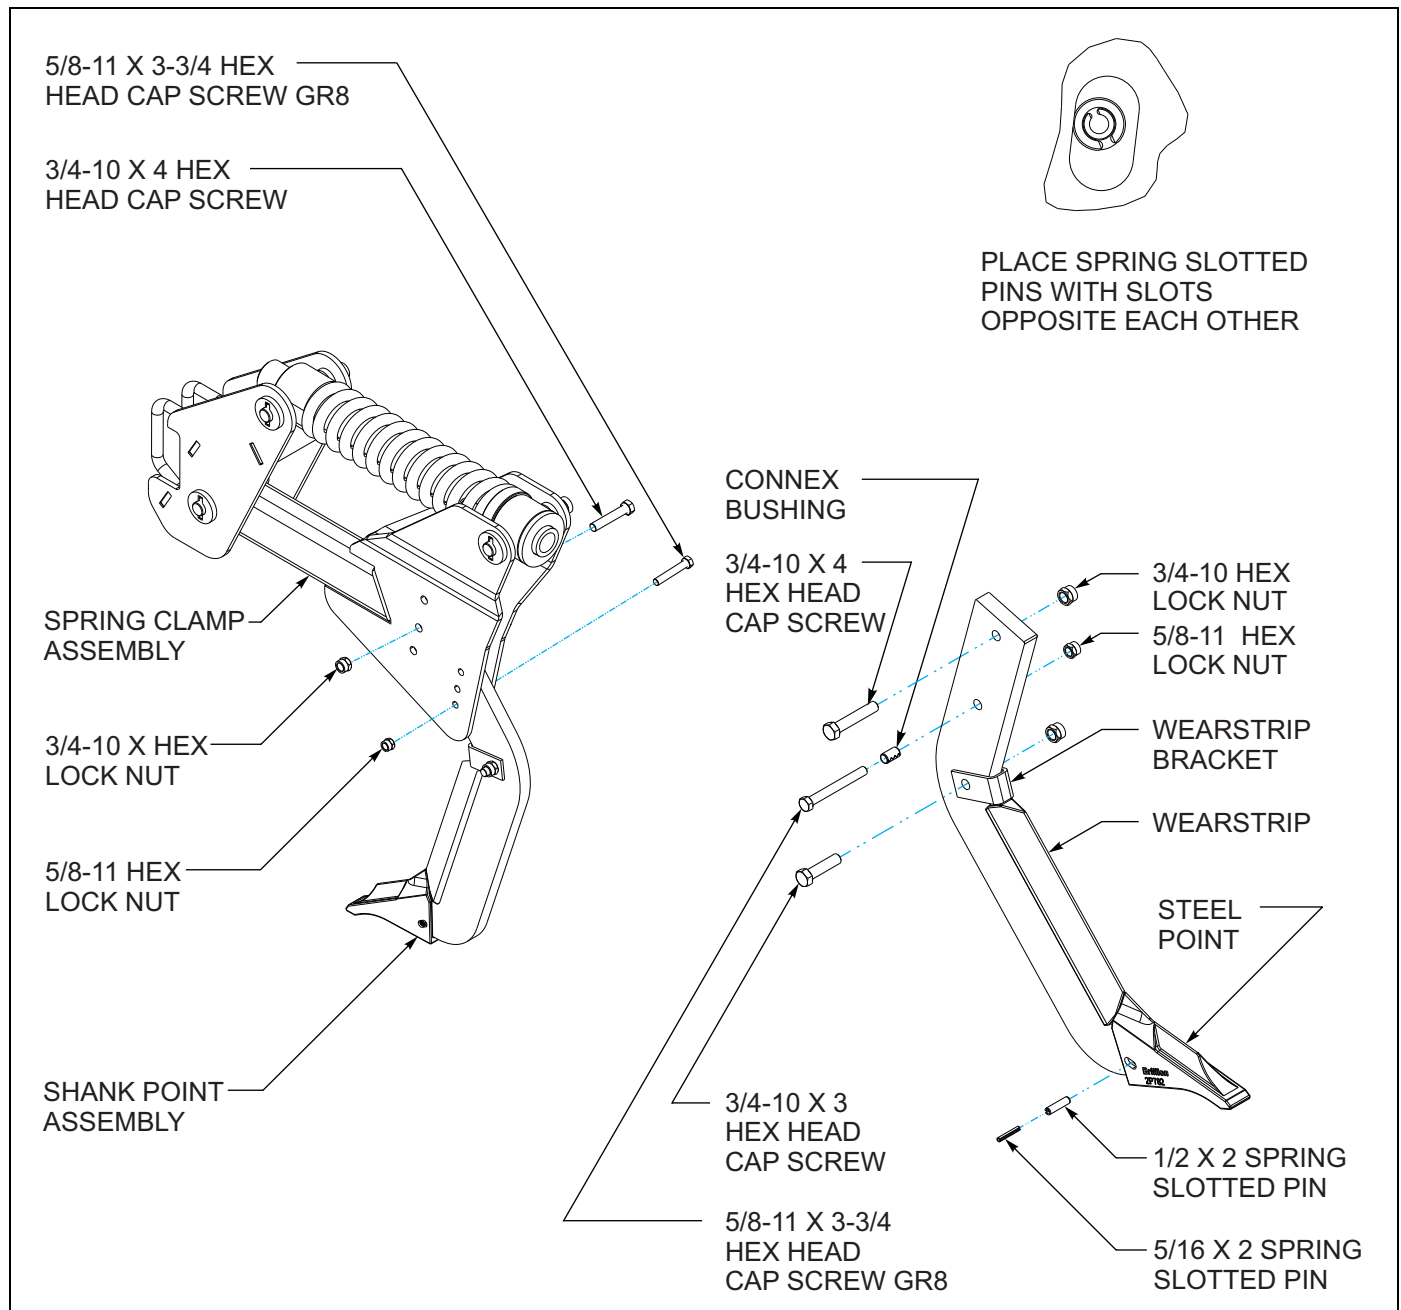

Figure 3-2: Auto-Reset Clamp and Straight Leg Shank Assembly
2. Attach wearstrip to straight leg shank using wearstrip bracket, 3/4-10 x 3 hex head cap screw, and 3/4-10 hex lock nut (**See Figures 3-2 through 3-4.**)